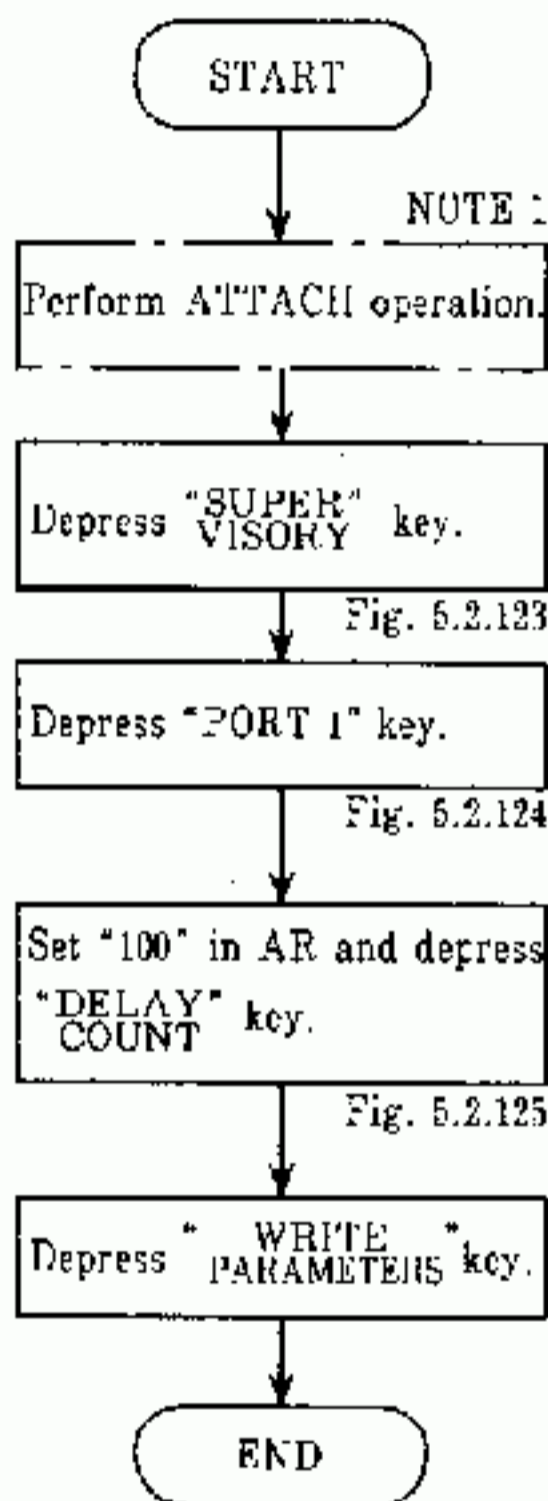
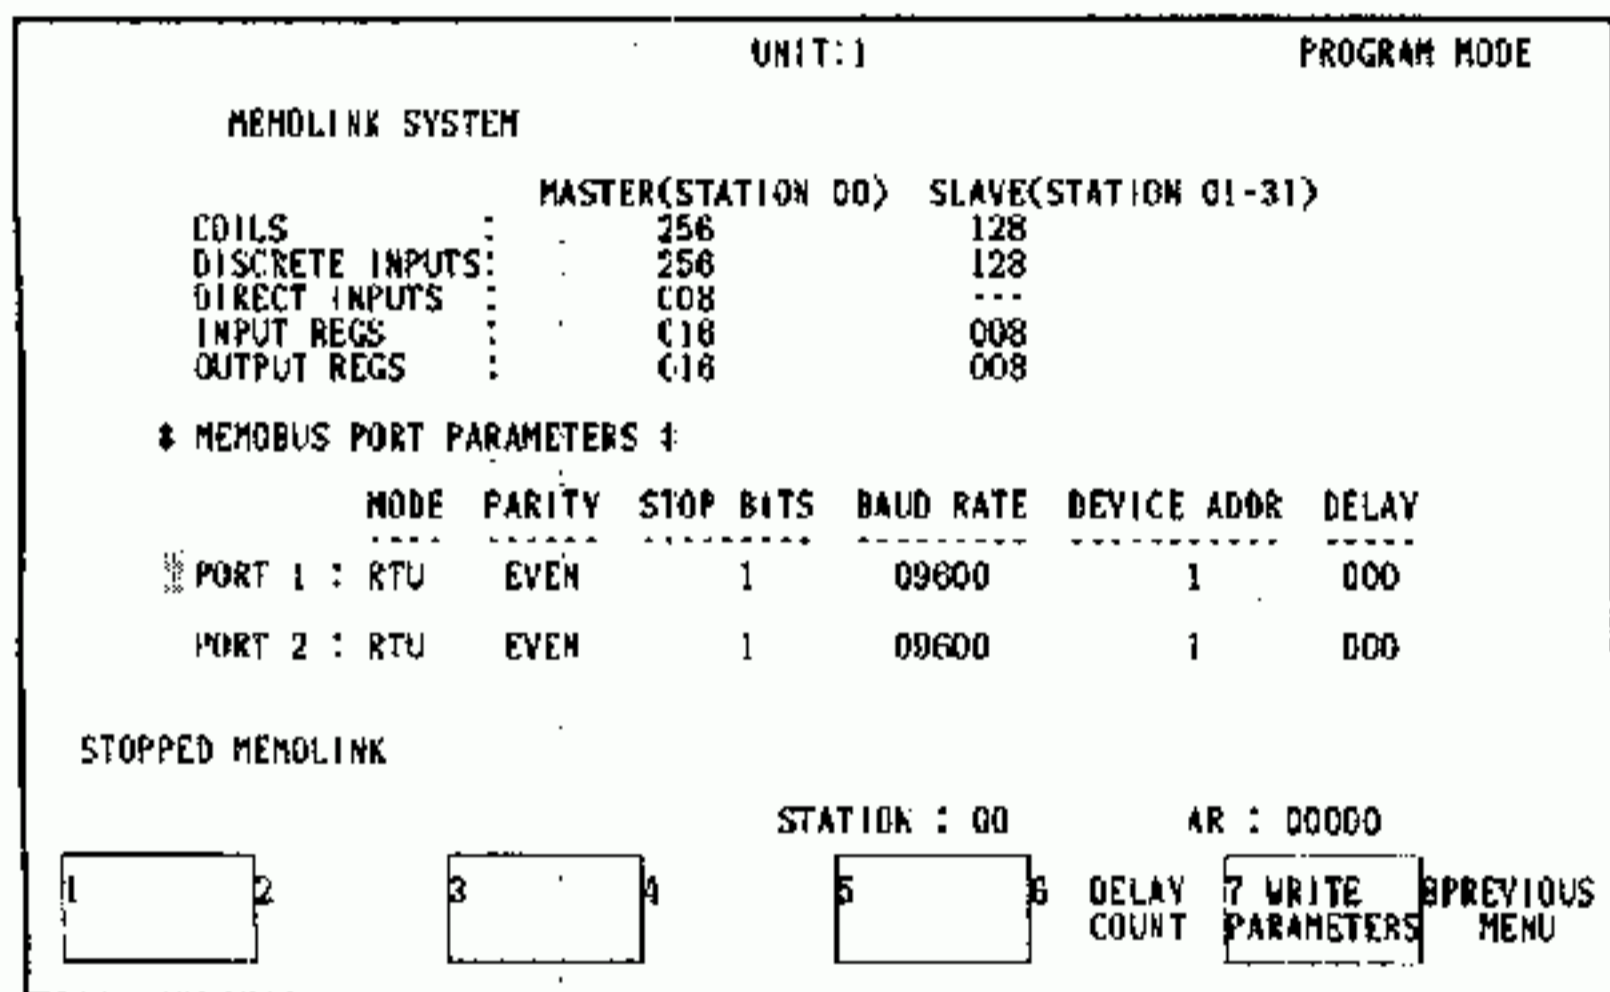

Fig. 5.2.123
Fig. 5.2.124
3. When "PREVIOUS MENU" is depressed (Fig. 5.2.124), the set data is not written, and the display returns to that shown in Fig. 5.2.123.